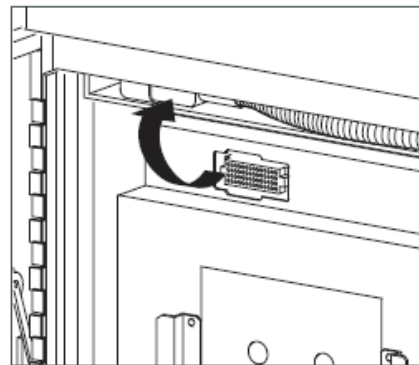

Figure 31
2. Stow low-voltage connector in storage tray above the circuit breaker (Figure 31).
1. Take low-voltage connector from the storage tray above the circuit breaker (Figure 31).